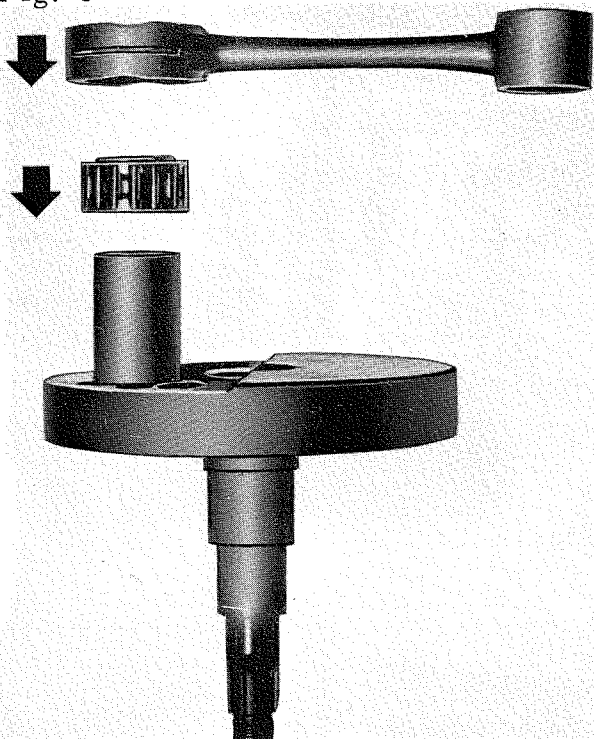

Fig. 6
5. Mount the needle bearing and the connecting rod. See fig 6. Lubricate the bearing somewhat.